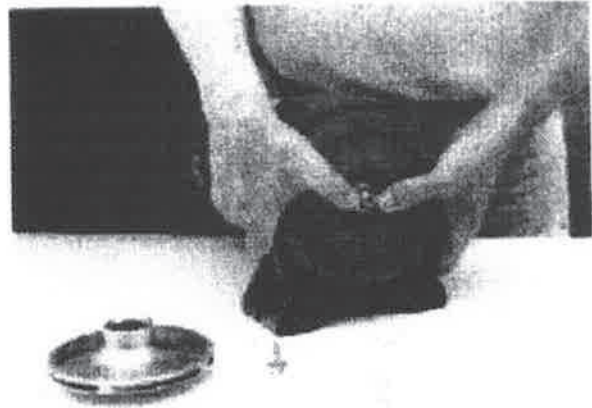

FIG. 8
- Install rotating element of seal on shaft (Fig. 8), be sure the carbon tipped sealing surface is toward seal seat, and assemble impeller. When installing hi-temp seal (211B1A021), furnished with brass impeller models, remove the 1/16 diameter cupped stainless steel washer that is packed with the seal. Use of this washer will damage the seal when used with this pump. Check diameter of impeller against motor horsepower rating to insure proper performance (Fig. 5).